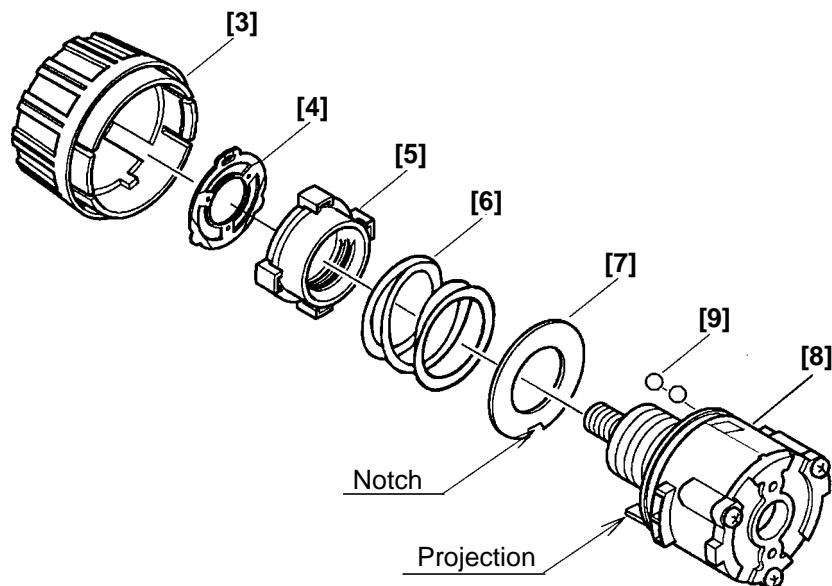

Fig. 7
(3) Reassembly of the clutch unit
- (a) Install the Steel Ball D4 **[9]** into the Gear Case **[8]** and mount Washer (D) **[7]** and the Spring **[6]** to the Gear Case **[8]**. (See Fig. 7.) When mounting Washer (D) **[7]** into the Gear Case **[8]**, align the projection on the Gear Case **[8]** with the notch of Washer (D) **[7]**.